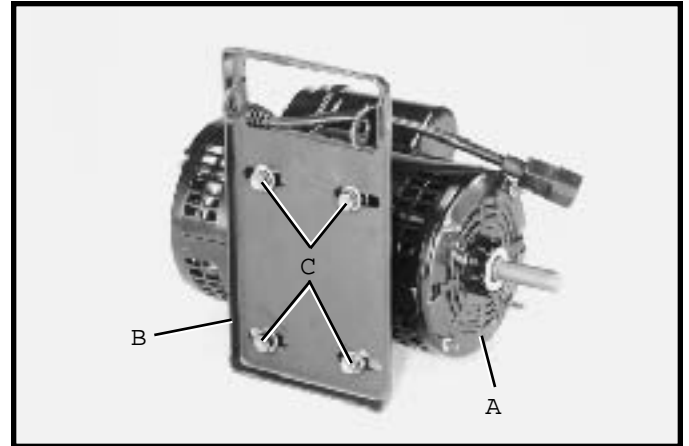

Fig. 12
- 1 Assemble the motor (A) to the motor mounting plate (B) as shown in Fig. 12, using four carriage bolts, flat washers, star washers, and hex nuts (C).